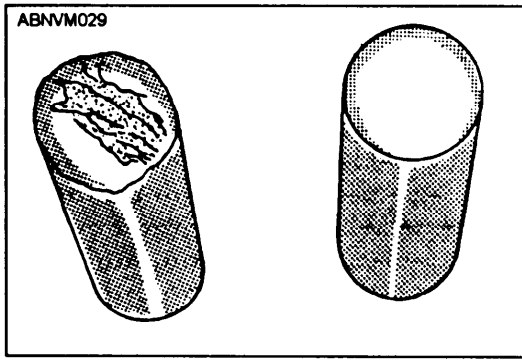

Figure 10-28.—Contaminated and good tungsten electrodes.
2. Check the size, appearance, and position of the tungsten electrode in the torch. It should be clean and silvery, and the diameter should be that recommended for the welding current to be used. A dirty, rough electrode surface usually means that the inert gas was shut off before the electrode cooled, that there was air leakage in the gas supply system or torch proper, or that the electrode tip was contaminated by touching metal. A dirty tungsten electrode can sometimes be cleaned satisfactorily with a fine emery cloth. If severely contaminated, the electrode should be replaced or the tip broken off and dressed on a grinding wheel. (NOTE: The dust produced from grinding thoriated electrodes is radioactive. However, this contamination normally does not exceed the maximum permissible concentrations. Even though the radioactive hazard of grinding thoriated tungsten is slight, care should be taken to grind electrodes on specially designed and constructed grinders.) When you are welding, the tip should be hemispherical in shape. The needlepoint tips used for stainless steel should not be used for aluminum. A contaminated and a good tungsten electrode are shown in figure 10-28. Note the hemispherical tip on the good electrode. The electrode should extend beyond the end of the gas cup a distance of 1/8 to 3/16 inch. It must be securely held in the torch both for positioning and for good electrical contact. Because small diameter electrodes are easily bent, check to see that the electrode is straight and centered in the cup. If necessary, straighten or replace the electrode.